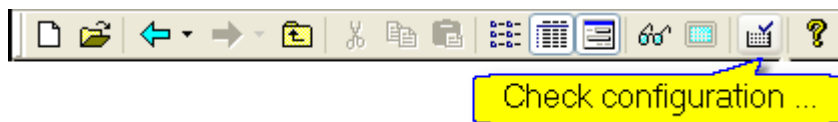

Figure 9: Check configuration.
1. Click on the **Tools** ⇒ **Check configuration...** menu item (toolbar item). (please see Figure 9 and 10)